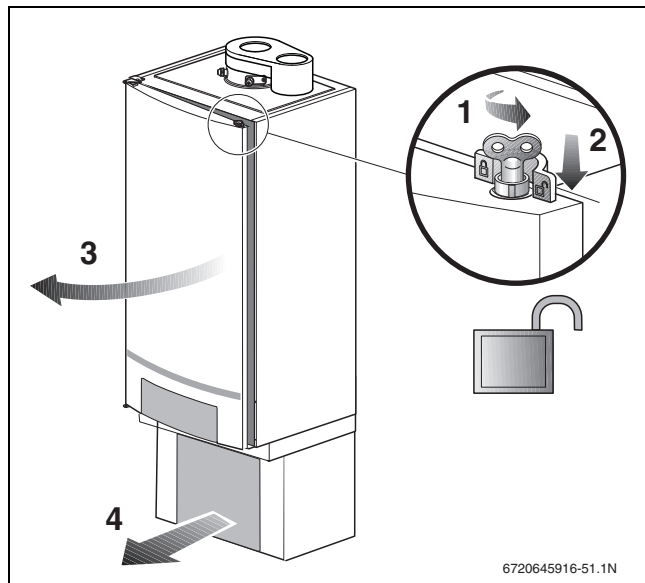

Fig. 54 Opening the boiler door
- ▶ Turn the vent key a quarter rotation to undo the boiler door lock (→ fig. 54, detailed picture). Push the fastener down (→ fig. 54, step 2) and open the boiler door.
- ▶ Remove the insulation cover of the pump group (→ fig. 54, step 4).
- ▶ Turn the vent key through a quarter rotation to undo the boiler door lock (→ fig. 54, page 34).